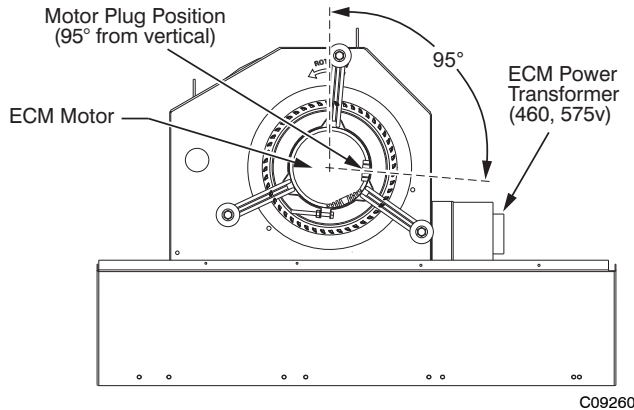
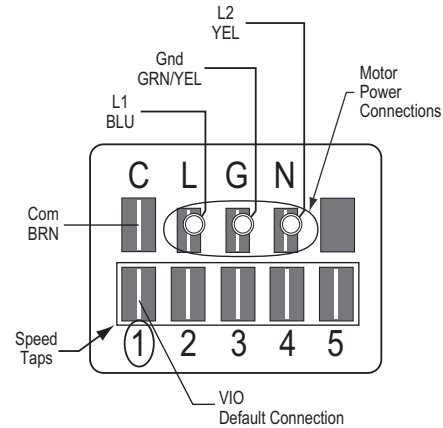

Fig. 3 - Direct-Drive Supply Fan Assembly
Fig. 4 - ECM Motor Connectors
For unit sizes 04, 05 and 06, a direct-drive forward-curved centrifugal blower wheel is an available option. The motor has taps to provide the servicer with the selection of one of five motor torque/speed ranges to best match wheel performance with attached duct system. See Fig. 3 and Fig. 4 .
208/230V units use a 230V motor. 460V units use a 230V motor with a stepdown transformer (mounted on the end of the fan housing, see Fig. 3). 575V units use a 460V motor with an autotransformer. Motor power voltage is
connected to motor terminals L and N (see Fig. 4 and Fig. 5); ground is connected at terminal G. The motor power voltage is ALWAYS present; it is not switched off by a motor contactor.
8. Ensure the motor terminals are located at a position below the 3 o’clock position (see Fig. 3). Tighten the motor belly-band bolt and torque to 80 in-lbs (9.0 Nm).